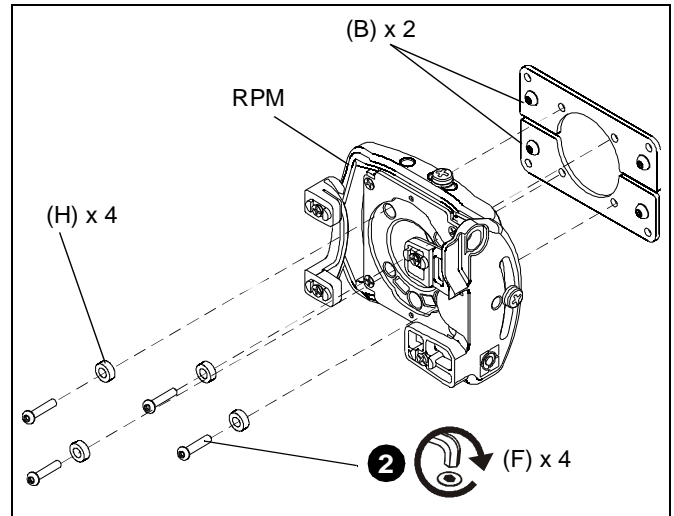

Figure 3
2. Attach two interface brackets (B) to RPM using four 1/4-20 x 1-1/2" buttonhead cap screws (F) and four nylon spacers (H). (See Figure 3)